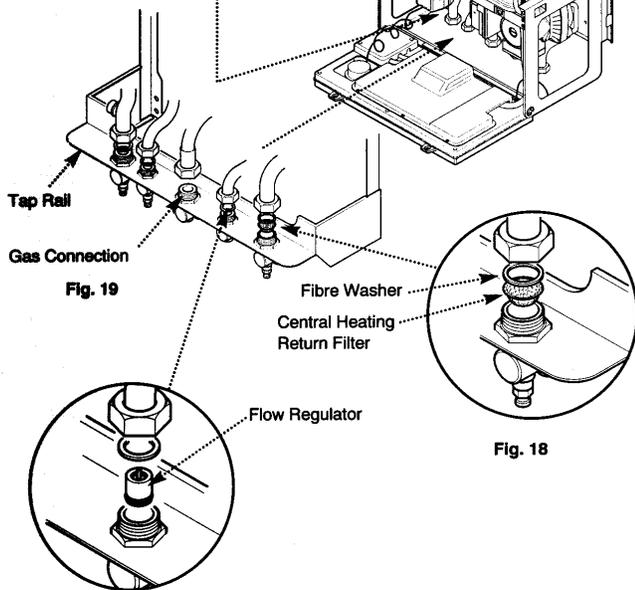

Fig. 19
5. Make the gas connection first (Fig. 19). This will centralise the boiler. The gas sealing washer is an integral part of the gas tap.
6. Insert the fibre sealing washers between the valve outlet face and the flange on the copper bends of the water circuit connections (Fig. 19).